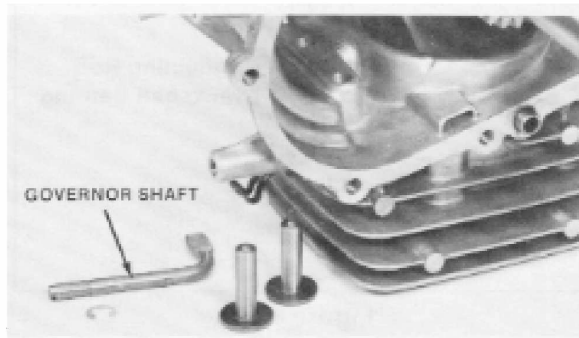

Figure 4-28
6. If necessary, the governor shaft may be removed by unseating the retaining ring and pulling the shaft out of the block. See Fig. 4-28. There are no seals or "O" rings in the block or on the shaft.